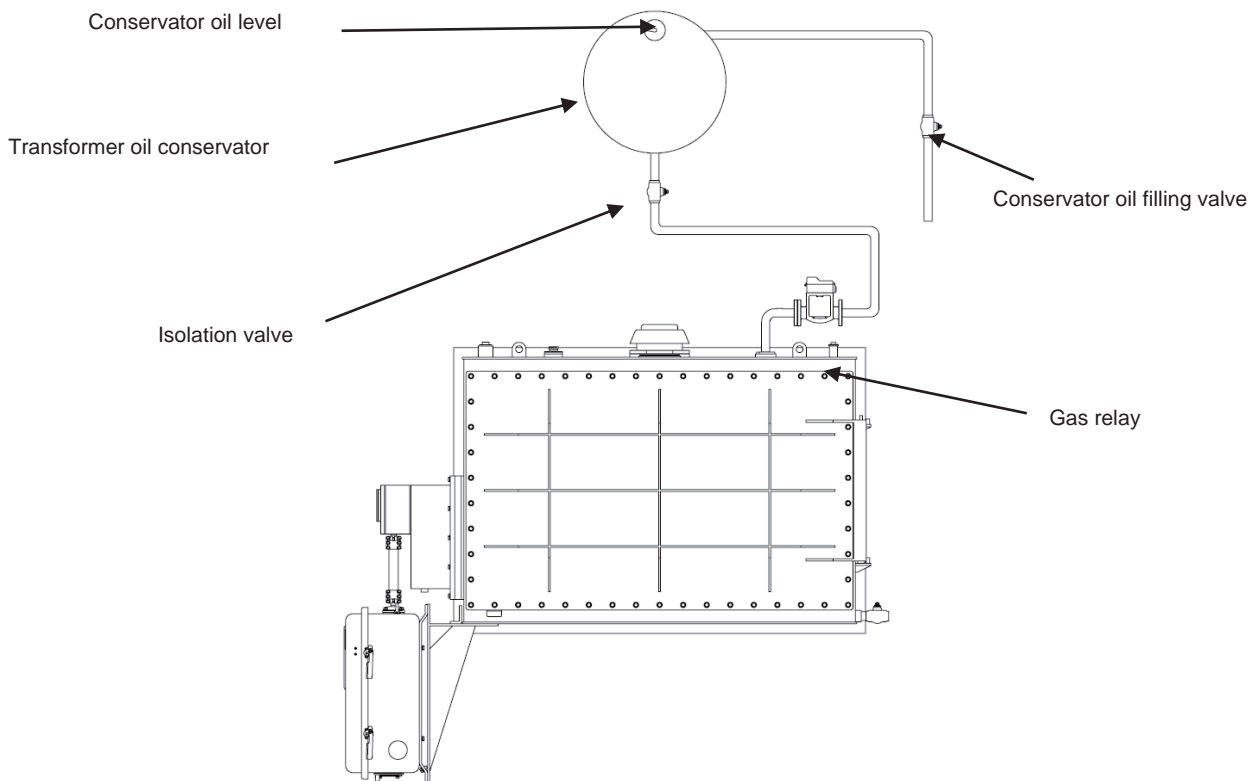

Figure 15
9.1.1 Oil filling under atmospheric pressure with the transformer equipped with a conservator. The conservator and HWDK gas relay are connected through an oil conservator valve (See Figure 15).